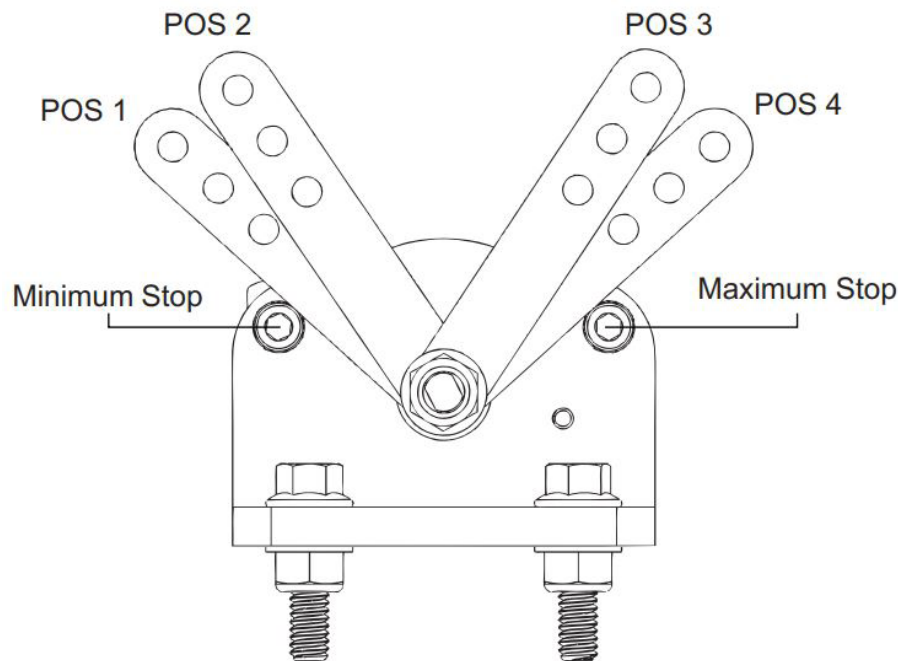

Figure 6
**STEP 22:** Install the Throttle Position Sensor in the cab, attached to the throttle pedal. Getting the maximum possible range as shown on the TPS Installation Instructions (found on GSEhelp.com) is critical to get an accurate reading from the sensor. Modifications may have to be done to the throttle pedal to attach this sensor properly. Do not mount the sensor in a location where it is exposed to the elements or can be damaged by the operator's foot. When verifying the installation with the laptop (after all the electrical steps are complete) the sensor should read as close to 0.5V at Idle and 4.5V at full throttle as possible. **Reference Figure 6.**